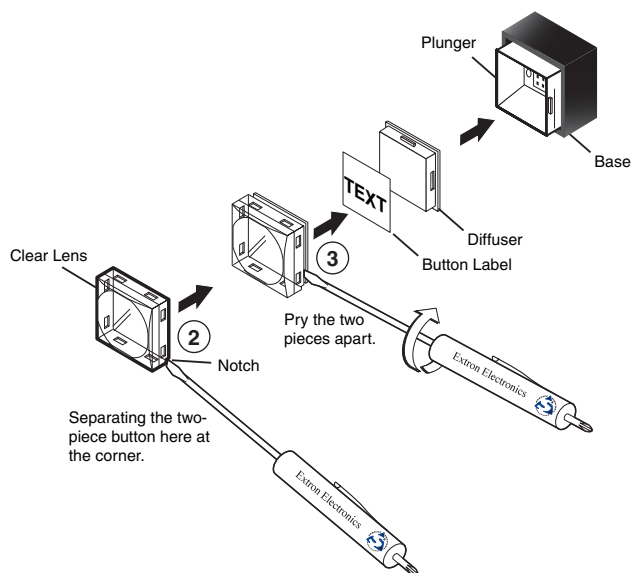

Figure 48. Replacing a Button Label
The button assembly consists of a clear lens cap, the button label, and a white diffuser (see figure 48 on the next page).
2. Remove the button assembly by inserting a small, flat-bladed screwdriver between the button base and the diffuser to gently pry the button assembly off the button plunger (see figure 48, 2).
4. Using a rotating motion of the screwdriver, carefully pry the two pieces apart (see figure 48, ③).